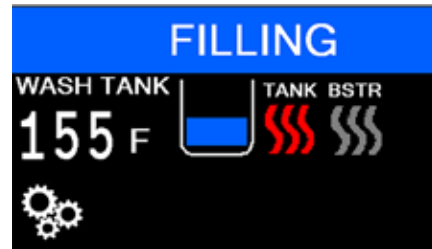
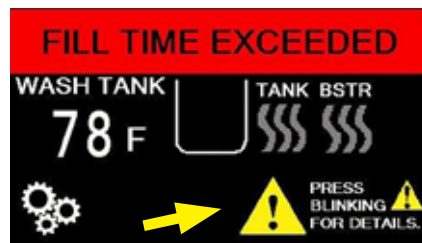

Fig. 99a - Normal FILLING operation screen
Fig. 99b - Fault screen with blinking icon
- If the machine does not fill completely in the allotted time then "FILL TIME EXCEEDED" and a blinking fault icon appear, (Fig. 99a and Fig. 99b).